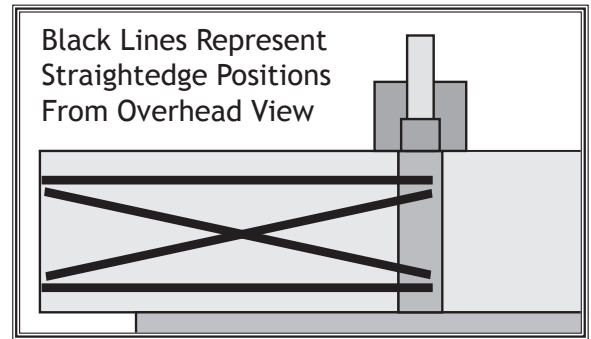

Figure 45. Straightedge positions for verifying if the outfeed table is parallel with cutterhead.
3. Place straightedge in one of the positions shown in **Figure 45**, and adjust eccentric bushings so straightedge touches cutterhead body while lying flat across outfeed table (a small hammer and punch may be necessary to turn eccentric bushings).